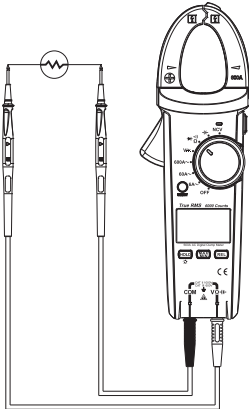

Figure 6
4. Resistance measurement (See Figure 6)